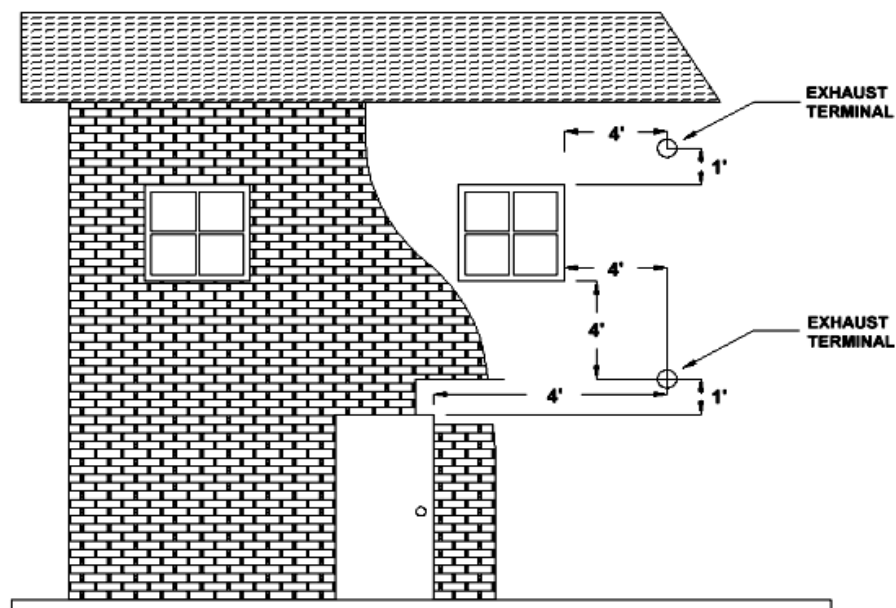

Figure 4
- a. **Without** Outside Air connected to the unit. For this types of installation please refer to the dimensions listed below in figure 4.